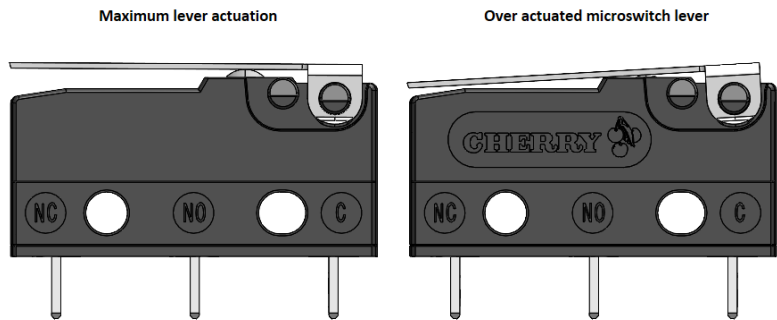

Figure 21: Microswitch actuation positions
- ii. When the jog lever is depressed fully, both microswitches should have a closed circuit. The microswitch actuation lever is approximately parallel with the body of the microswitch as shown in Figure 21, 'Maximum lever actuation'
- iii. The microswitch actuation levers are not over actuated, refer to Figure 21.
- c. The microswitch ② lever is raised enough to open the switch contacts when the jog is in its default position. This can be done by checking for an open circuit(no continuity) across the Normally Open and Common terminals. When the jog lever is in its rest position, there should be no continuity across terminal 1 and 4 on either microswitch.